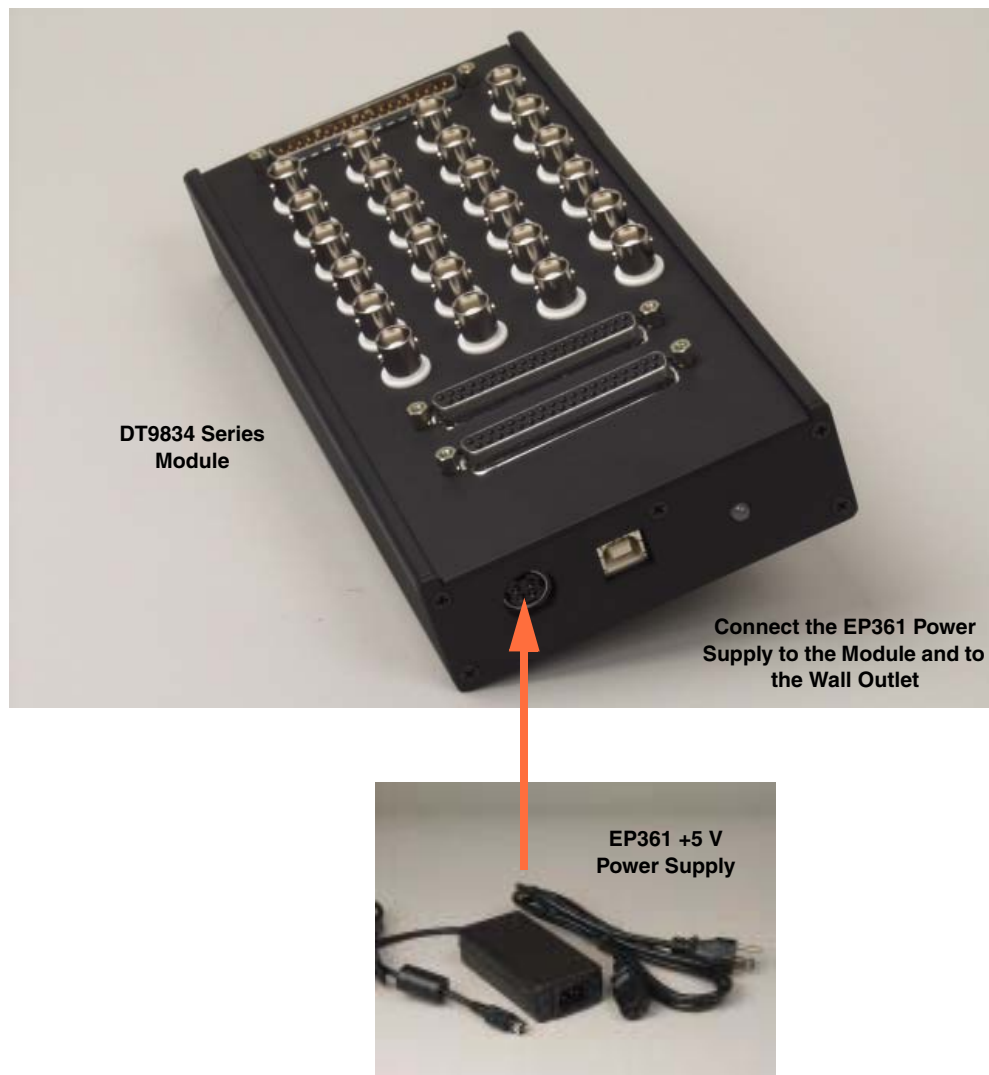

Figure 3: Attaching a +5 V Power Supply to the DT9834 Series Module
1. Connect the +5 V power supply to the power connector on the DT9834 Series module. Refer to Figure 3.